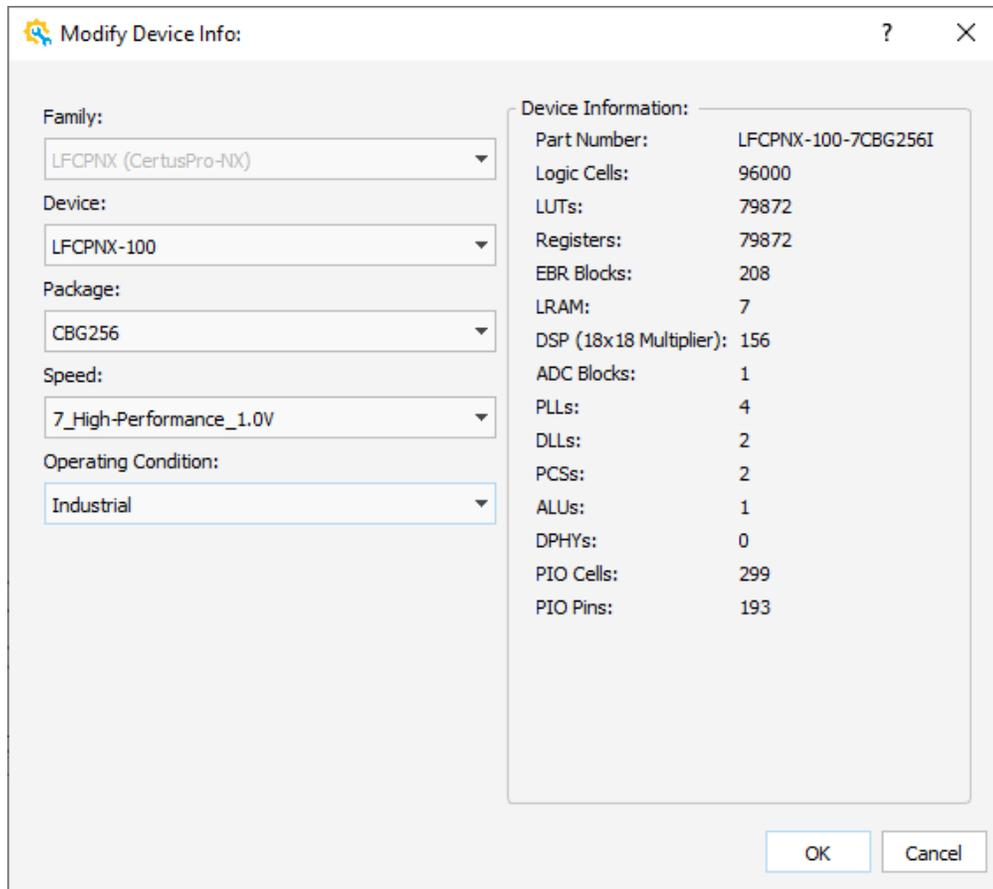

Figure 2.32 Modify Device Info
2. Use the drop-down menu to choose the desired device in **Device** filed in the Modify Device Info wizard (Figure 2.32). Use the drop-down menu to change the package, speed and operating condition in **Package, Speed, Operating Condition** filed.